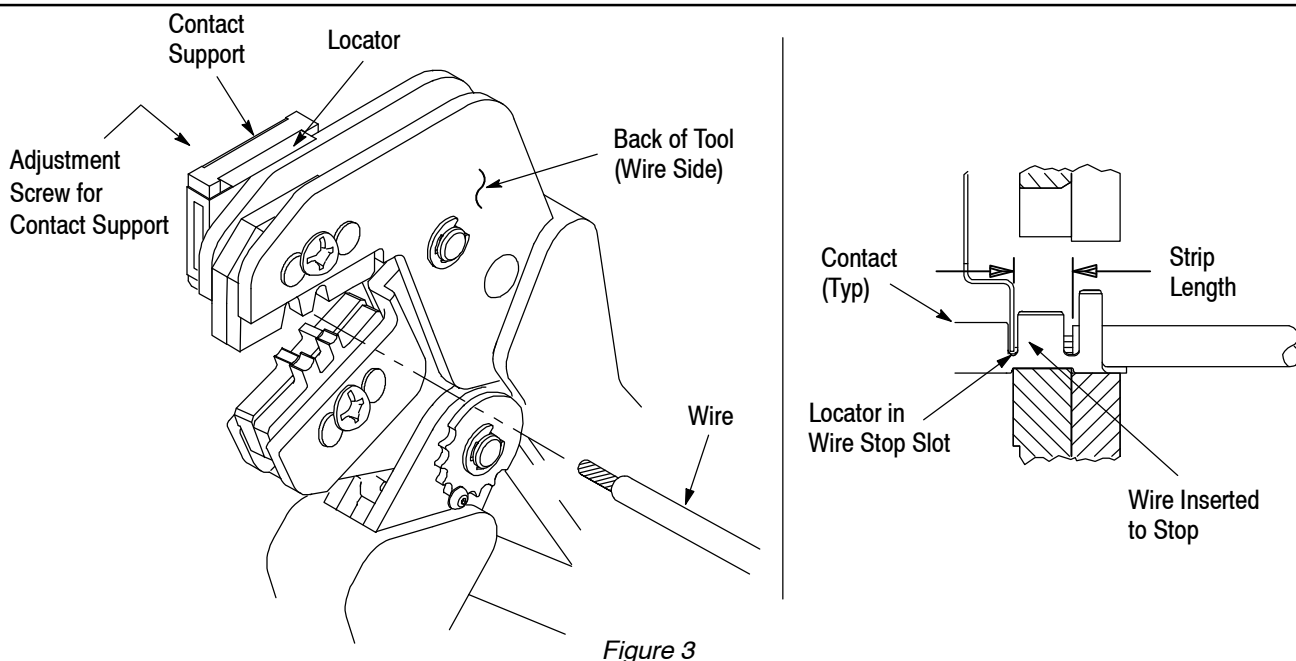

Figure 3
#### 4. CONTACT SUPPORT ADJUSTMENT (Figure 3)
Refer to the table in Figure 1 and select wire of the specified size and insulation diameter. Strip the wire to the length indicated in Figure 1, taking care not to nick or cut wire strands. Select an applicable contact and identify the appropriate crimp section according to the wire size markings on the tool. Refer to Figure 3 and proceed as follows:
3. Position the contact so that the mating end of the contact is on the locator side of the tool, and so that the open “U” of the wire and insulation barrels face the top of the tool. Place the contact up into the nest so that the movable locator drops into the slot in the contact. Refer to Figure 3. Butt the front end of the wire barrel against the movable locator.
5. Insert stripped wire into contact insulation and wire barrels until it is butted against the wire stop, as shown in Figure 3.
**NOTE** *The crimped contact may stick in the crimping area, but the contact can be easily removed by pushing downward on the top of the locator (see Figure 3).*